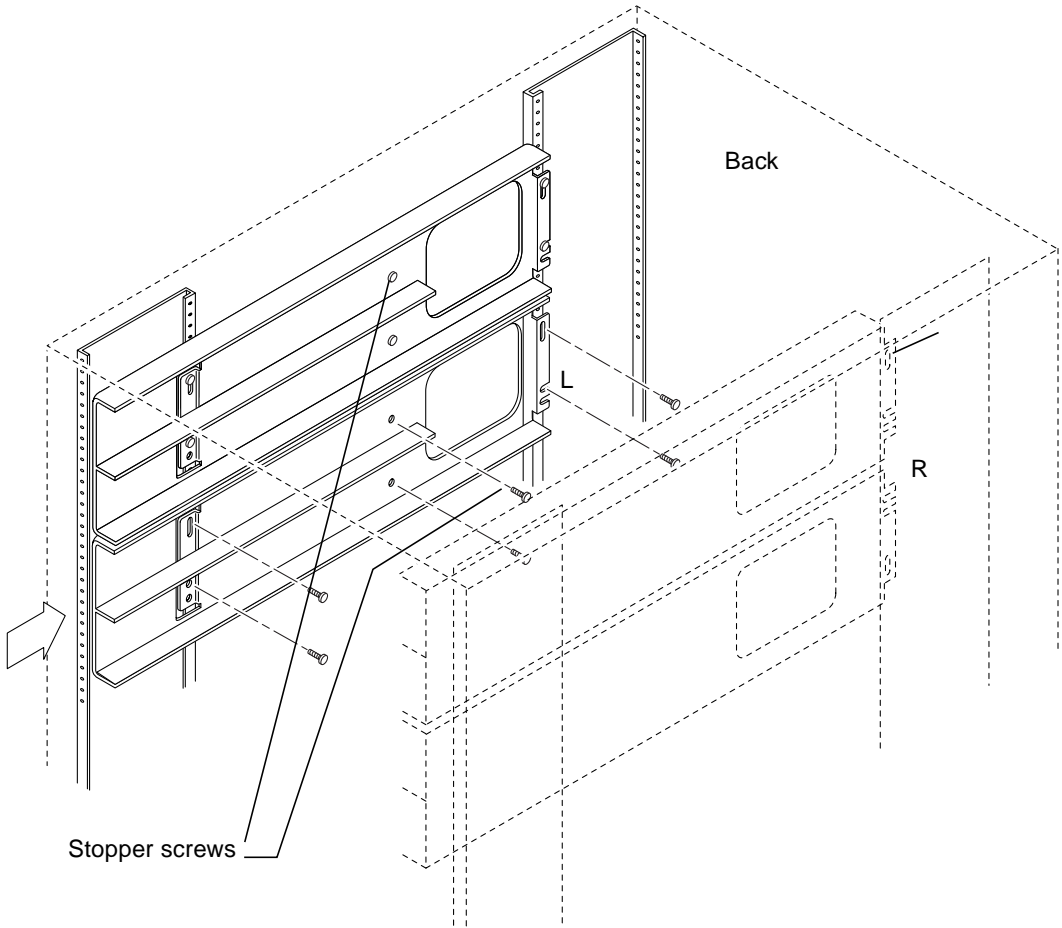

FIGURE 4-1 Attaching the Mounting Rails
- 1. Before you install the rails into the cabinet, loosely start two stopper screws into each mounting rail. (FIGURE 4-1).**
- 2. Working from the back of the cabinet, loosely start two screws into the cabinet rails. (FIGURE 4-1.)**